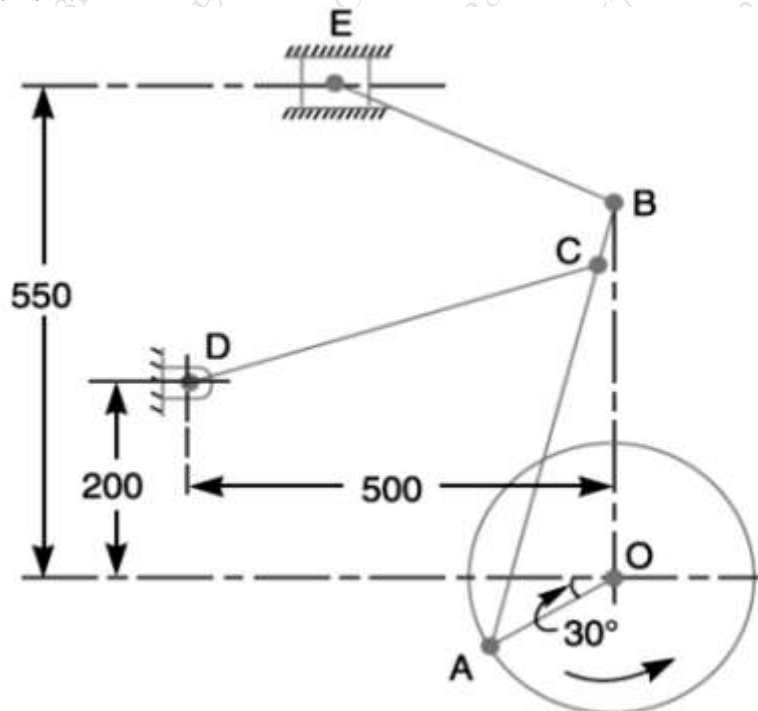

Fig. 2
- (B) Draw a neat sketch of Harts mechanism and prove that it traces a exact straight line. **08**
3. (A) Fig 2 shows the mechanism of a radial valve gear. The crank OA turns uniformly at 150 rpm and is pinned at A to rod AB. The point C in the rod is guided in the circular path with D as center and DC as radius. The dimensions of various links are OA = 150 mm; AB = 550 mm; AC = 450 mm; DC = 500 mm; BE = 350 mm. Determine velocity and acceleration of the ram F for the given position of the mechanism. **14**